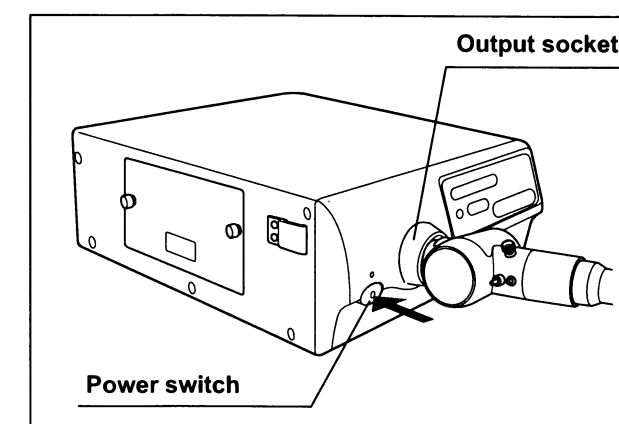

Figure 4.4
2. Press the power switch of this instrument to turn it ON (see Figure 4.4).